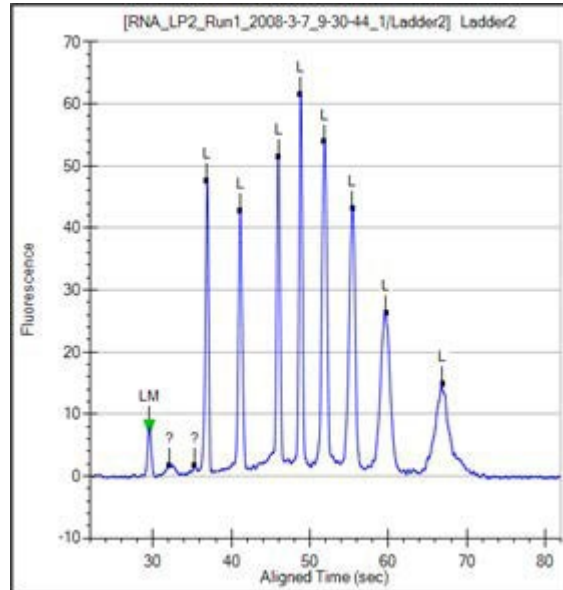

Figure 9. Ladder Graph - RNA
- 5 A sizing ladder (see Figure 9), which is a mixture of RNA fragments of different known sizes, is run first from the ladder vial. The concentrations and sizes of the individual nucleotides in the ladder can be changed on the Analysis Tab.